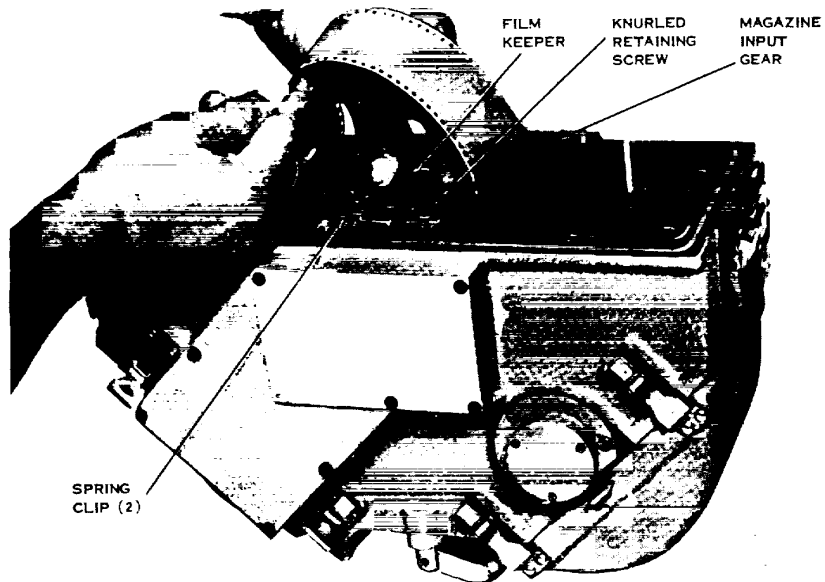

Figure 13. Camera Threading, Darkroom Procedures.
20. Darkroom Procedures (fig. 13)